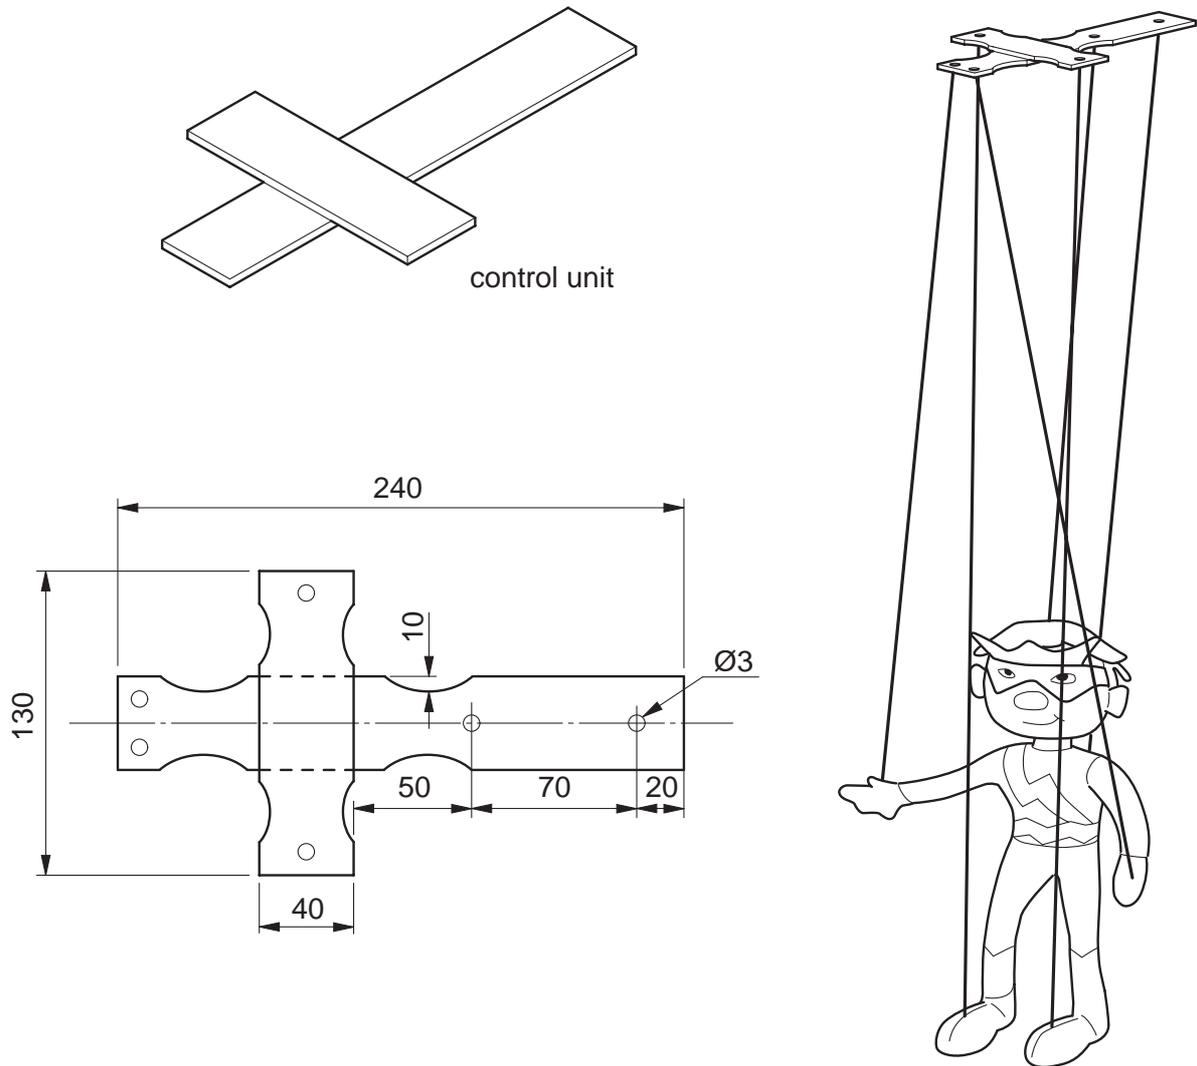

Fig. 6
- 14 Fig. 6 shows details of a control unit for a string puppet that is made up from **two** parts together.